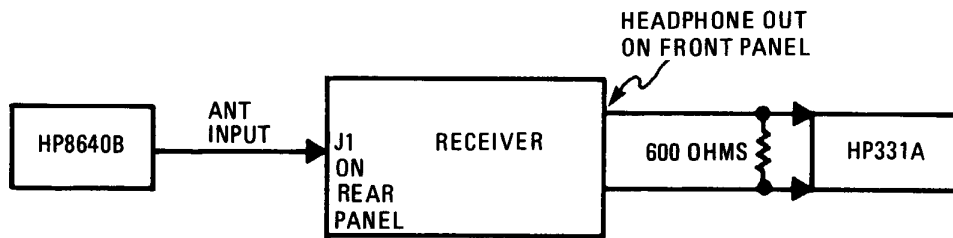

Figure 5-3. Phone Audio Test Setup
- b. Connect equipment as shown in figure 5-3. Use a jack with a 600-ohm load to plug into the headphone output.